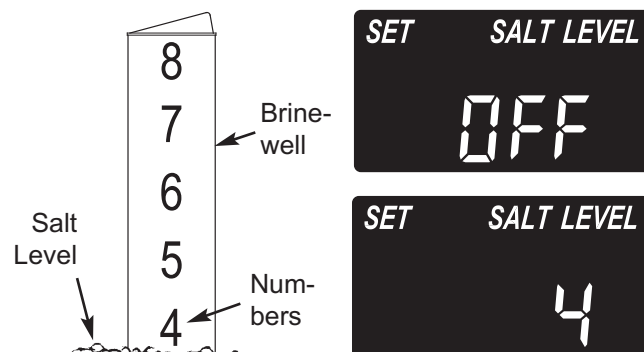

FIG. 24
- The salt level scale, on the brine well inside the tank, has numbers from 0 to 8 (see Fig. 24). Observe the highest number the leveled salt is at, or closest to.